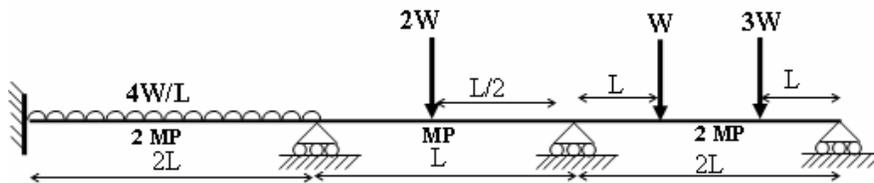

Fig.7
8. Determine the ultimate strength of a continuous beam shown in Fig.7. [16]